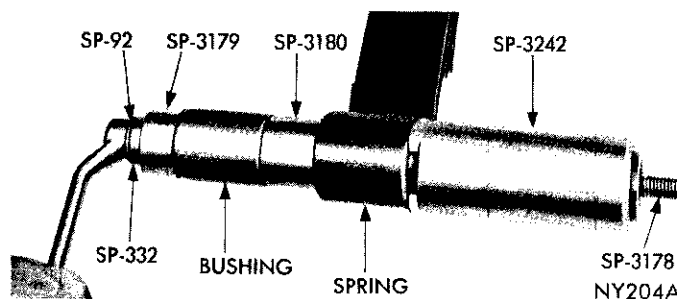

Fig. 8—Pivot Bushing Replacement
The removal of old bushings and installation of the new bushings is performed in one operation, using Tool C-3709 (Fig. 8).
(1) Raise vehicle on hoist to a comfortable working position.
(2) Using floor stands under axle assembly, raise axle assembly to relieve weight on rear spring.
(3) Disconnect rear shock absorber at spring plate lower mounting stud. Lower axle assembly, permitting rear springs to hang free.
(4) To replace front pivot bushing, remove rear spring front hanger from body bracket. Remove pivot bolt and hanger from spring.
(5) Place new bushings on Tool C-3709 (Fig. 8). Arrange tool in spring eye, then press out old bushing while pressing new bushing in one operation.
(6) Assemble front hanger to spring but do not tighten pivot bolt nut until full weight of vehicle is on wheels.
(7) Attach spring hanger to body bracket and tighten mounting bolts to 30 foot-pounds.
(8) To replace rear spring shackle bushings remove rear spring hanger from body bracket. Remove shackle, then slide bushings out of spring and hanger.
(9) Insert new bushings in spring and hanger then assemble shackle and hanger on spring. Start shackle bolt nuts.
(10) Attach hanger to body bracket and tighten mounting bolt to 30 foot-pound.
(11) Lower vehicle and install shock absorber on spring plate stud and tighten nut 50 foot-pounds. With full weight of vehicle on the wheels, tighten rear spring front pivot bolt nut 125 foot-pounds and shackle nuts 40 foot-pounds.